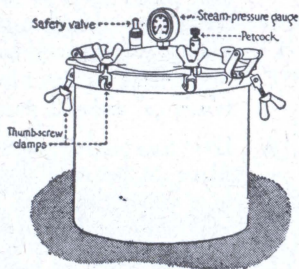
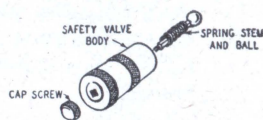

Fig. 58
Fig. 59
1. After each use, clean pressure cooker, Fig. 58 like any aluminum utensil, page 32. Wipe inside of lid with a damp cloth. Handle lid carefully and never put in water. Leave lid off the cooker when not in use, as storing it closed causes the aluminum to pit and discolor.
2. Take the safety valve apart and clean the parts often. Fig. 59. Keep the ball clean with fine steel wool or vinegar. **Caution:** Unless this is done you have no safety protection. Safety valve should "pop off" between 16 and 20 pounds pressure; if it "pops off" too soon, stretch spring, Fig. 59; if it does not "pop off" mash spring down some. A new spring may be needed. Clean pet cock, Fig. 58, with fine steel wool.
3. **Caution:** Never open cooker without looking at the gauge to see that it registers "zero," and at the pet cock to see that it is open and all steam has escaped, Fig. 58. Cool gradually and always open lid away from you.
6. Have pressure gauge, Fig. 58, tested whenever possible. If it fails to return to "zero," it may be adjusted by the manufacturer or a new gauge may be bought.